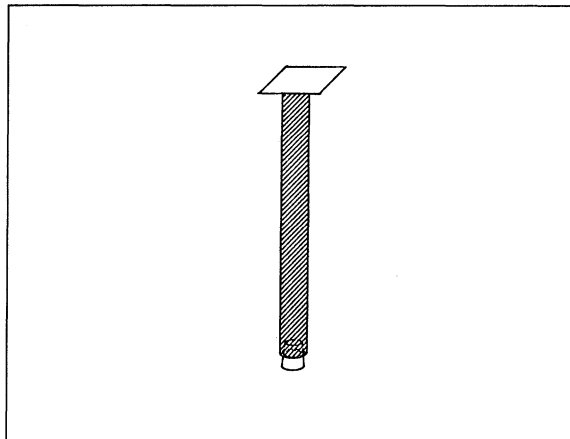

Fig. 5 ► 9.
10. Place the small sheet of paper on the water ► Fig. 5.